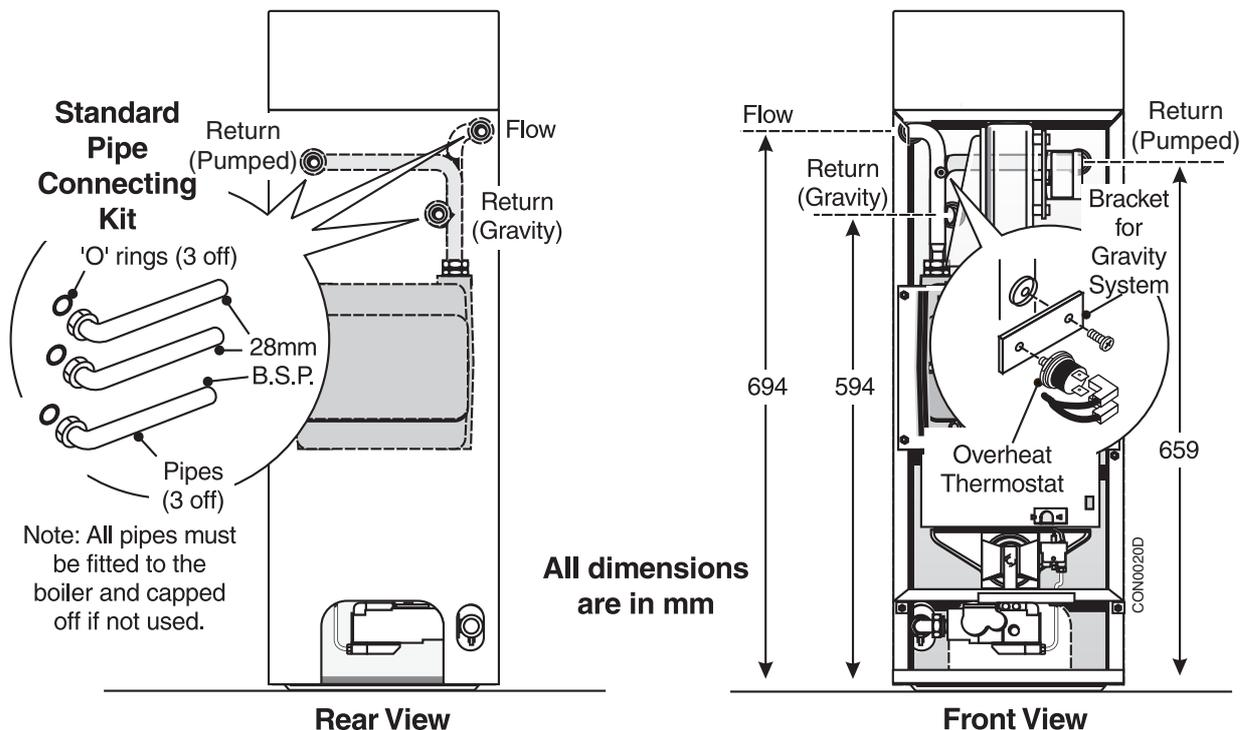

Fig. 19
1. On Gravity DHW systems check that the overheat thermostat is fitted correctly. See Fig. 19, page 19.